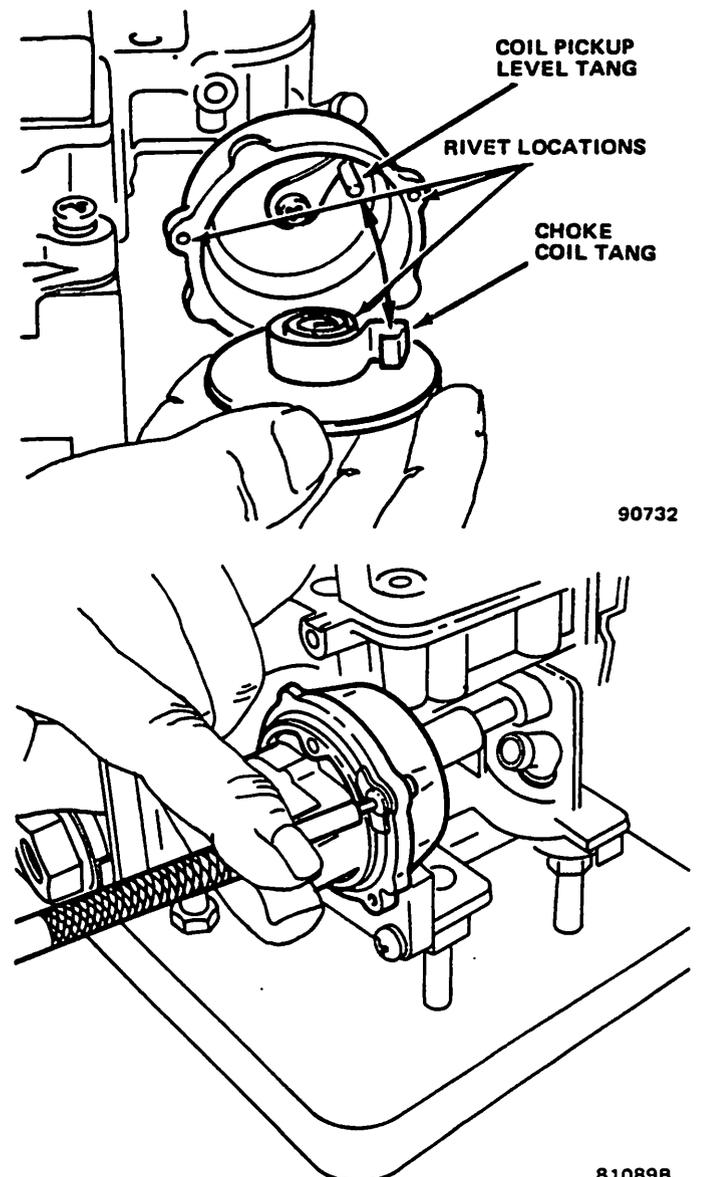

Fig. 1J-87 Carburetor Model E2SE—Choke Coil and Cover Installation
properly aligned when coil pickup tang is at top (12 o'clock) position (fig. 1J-87). Install inside lever retaining screw into end of intermediate choke shaft and tighten securely.
(14) Install pump discharge steel check valve ball and spring in passage next to float chamber. Insert end of replacement plastic retainer into end of spring and install retainer in float bowl. Tap lightly in place until top of retainer is flush with bowl casting surface.
(15) Using Tool J-22769 or a screwdriver that fully fits slot in top, install extended main metering jet into bottom of float chamber. Tighten jet securely.
(16) Install inlet needle seat assembly, with gasket, using Seat Installer Tool J-22769 (fig. 1J-74).
(17) For easier adjustment, carefully bend float arm upward at notch in arm before assembly.
(18) Install float valve onto float arm by sliding float lever under pull clip. Correct installation of pull clip is to hook clip over edge of float on float arm facing float pontoon (fig. 1J-85).
(19) Install float retaining pin into float arm with end of loop of pin facing pump well. Install float assembly by aligning valve in seat and float retaining pin into locating channels in float bowl.
(20) Adjust float level: